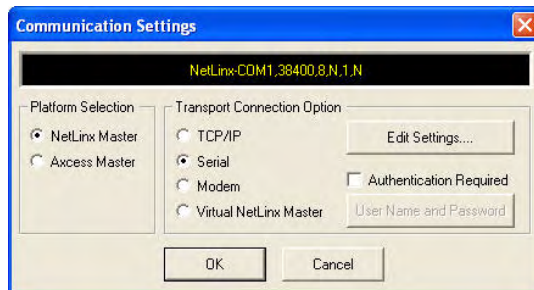

FIG. 14 Communication Settings dialog box
3. Click the **Communications Settings** button to open the *Communications Settings* dialog (FIG. 14).